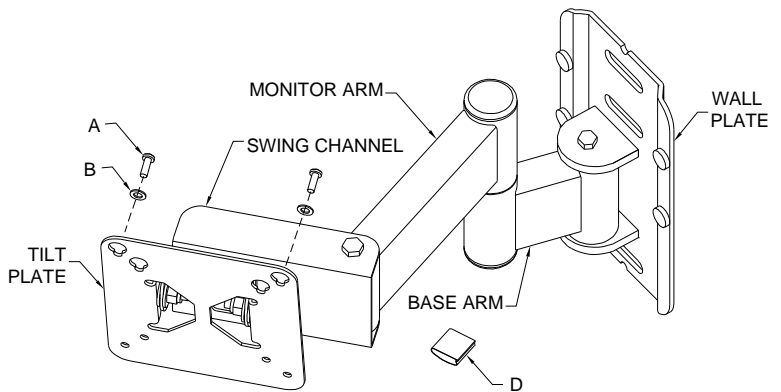

Figure 1
4. (Optional) The Swing Channel can be removed and reassembled to swing in the opposite direction. See Figure 1. It is recommended to flip the Tilt Plate as well.